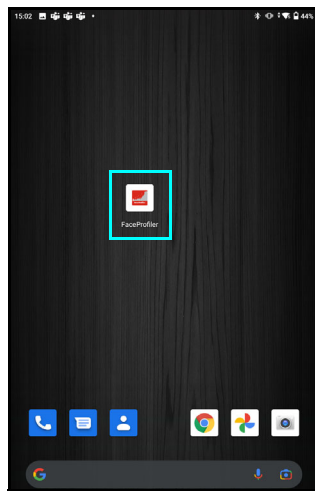

Figure 2
2. Tap the Face Profiler icon to install the app as you would any other Google Play application (Figure 2).